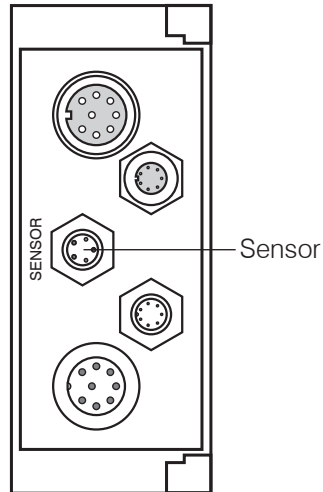

Fig. 18 Rear view of the controller with sensor plug connection.
- ➡ Connect the sensor cable to the backside of the controller, see Fig. 18.